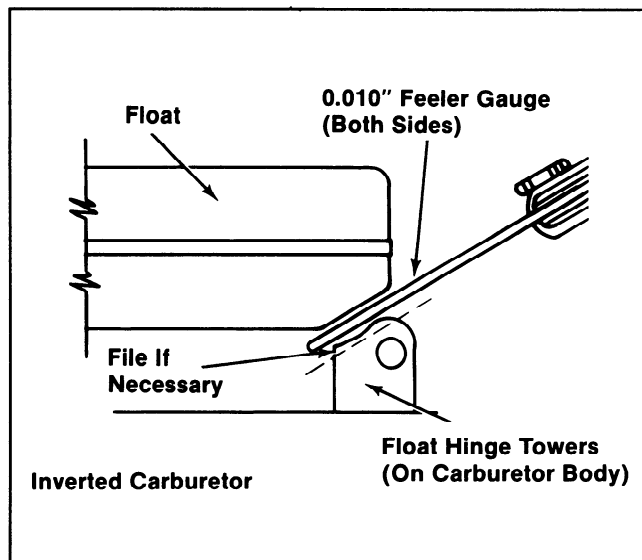

Figure 6-15. Checking Float Clearance.
5. **Check float-to-float hinge tower clearance:** Invert the carburetor so the float tab rests on the fuel inlet needle. Insert a **.010"** feeler gauge between float and float hinge towers. If the feeler gauge cannot be inserted, or there is interference between the float and towers, file the towers to obtain the proper clearance. Refer to Figure 6-15.